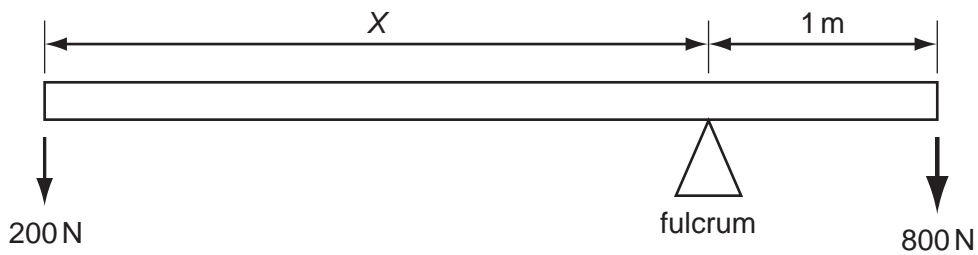

Fig. 5
- 6 Fig. 5 shows a diagram of a lever system.